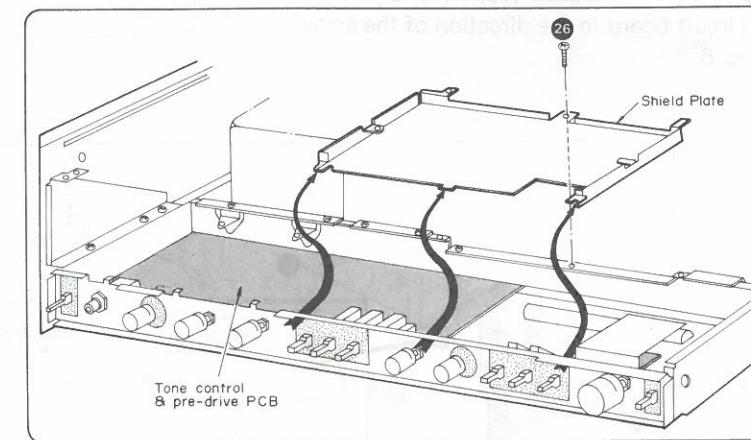

Fig. 7
- When checking the tone control and pre-drive printed circuit board, first detach the tuner, FL display and voltage regulator printed circuit board, then remove setscrew 26 to detach the shield plate bottom (lower) as shown in Fig. 7.